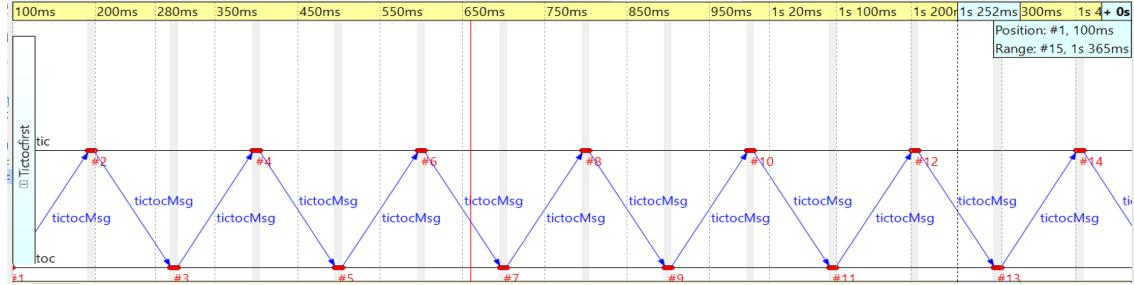

Figure 3.4: Message exchanges
- Observing message exchanges: Run the simulation again. Use the *Record* button in the QtEnv graphical runtime environment after launching, to record the message exchanges during the simulation into an *event log file*. After you exit the simulation, the log file can be analyzed later with the *Sequence Chart* tool in the IDE. The *results* directory in the project folder contains the *.elog* file. Double-clicking on it in the OMNeT++ IDE opens the Sequence Chart tool, and the event log tab at the bottom of the window. You will see a chart similar to Figure 3.4. You can also open separate output windows for *tic* and *toc* by right-clicking on their icons and choosing *Component log* from the menu.